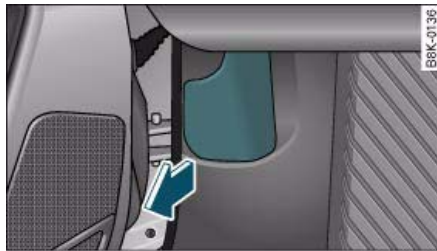

Fig. 221 Detail of footwell on driver's side: Release lever
- Pull the lever under the dashboard in the direction indicated (arrow) ⇒ fig. 221.